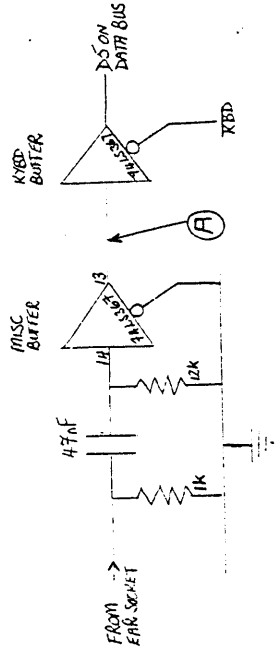
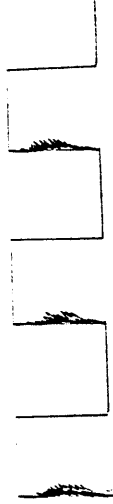

fig. 1. TAPE LOAD CIRCUIT
fig. 2. BAD SIGNAL AT POINT A.
The attached fig. 1 shows the Jupiter Ace keyboard matrix. In wiring up my own board I found that the computer would crash occasionally and produce some peculiar reactions unless the 5 10K pull-up resistors were added to the 74LS367 keyboard buffer. These are shown in the diagram. The 40 keys are connected in a 5 x 8 matrix which is decoded in the Ace to give the correct response.
Out came the 'scope yet again to find that the signal at point A of the loading circuit (shown in fig. 1) which should be a nice clean square-wave, looked like that shown in fig. 2, i.e. lots of noise on the leading edges of the square-wave. Changing the capacitor for another of the same value produced a slight improvement so I decided to experiment. Finally, fitting a .1uF polycarbonate capacitor produced two results:-
One feature of my latest game, ALIENS*, is the ability of the program to detect multiple key presses. Here's how it's done. As it says on page 154 of the Ace manual, each half-row of keys corresponds to a unique Z80 port address, with the outer-most key on each row corresponding to bit 0 of the data read in from that port. The assignment of keys to ports is fairly straightforward, except on the bottom row, where SYMBOL-SHIFT has been assigned to the port for the left-hand half-row, and the 'v' key has accordingly been moved right. Fig. 1 shows the logical layout of the keys with respect to their port addresses.
-Fig.1-
Fig.2 the listing.